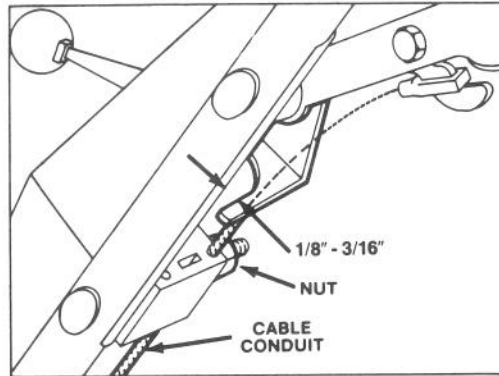

Figure 15
2. CHECK ADJUSTMENT (Fig. 15) — Move control bar toward handle until slack in wire is removed. Gap between brake lever and handle must be  $1/8'' - 3/16''$ . See step 3 for adjustment.
3. ADJUST CABLE CONDUIT — Loosen nut on cable bracket (Fig. 15). Insert  $1/8'' - 3/16''$  object between brake lever and handle. Pull down on cable conduit until slack is removed. Then tighten nut.